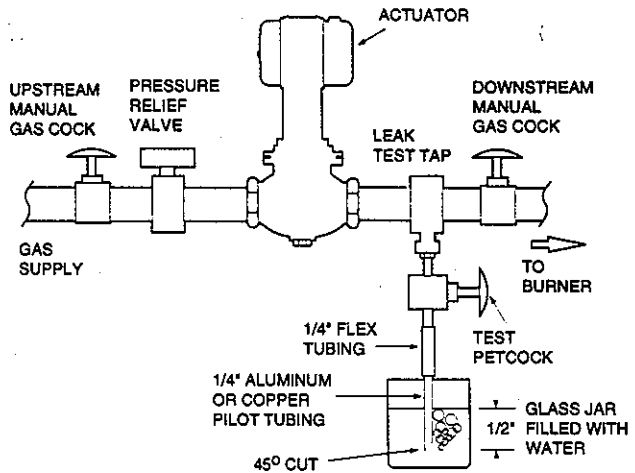

Figure 8. Test setup for checking through-the-valve leakage
- Turn off gas supply at upstream manual gas cock (see Figure 8).
- Remove plug from leak test tap and connect test equipment to leak test tap as shown in Figure 8.